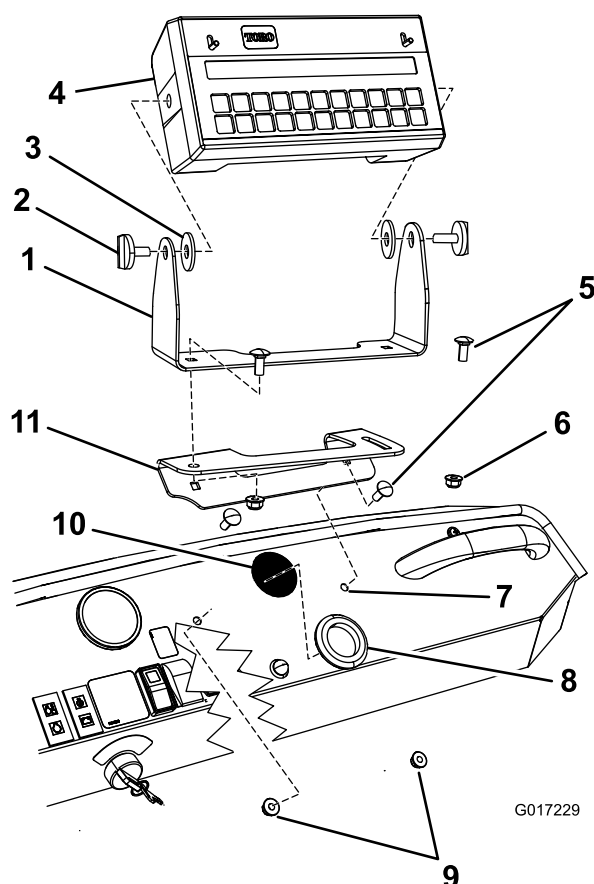

Figure 2
1. Locate the mounting bracket with the curved slot in loose parts. Install the bracket to the dashboard and secure it with 2 carriage bolts (5/16 x 3/4 inch) and 2 locknuts (5/16 inch) as shown in Figure 2.
7. Assemble the computer console to the pivot bracket with 2 hand knobs (Figure 2).
8. Secure the pivot bracket to the mounted bracket with 2 carriage bolts (5/16 x 3/4 inch) and 2 locknuts (5/16 inch) as shown in Figure 2.